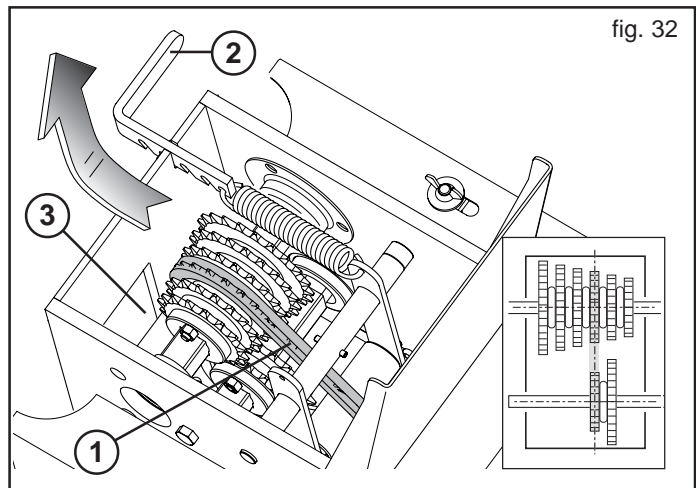

fig. 32
- To move the chain, open the gearbox cover and loosen the chain (1 Fig. 32) by means of the lever (2);
- Place the chain on the located gears and align them (Fig. 32).
- Tighten the chain again with the lever (2 Fig. 32) and close the cover.
To access the gears more easily, the lower opening may also be used (3, Fig. 32).